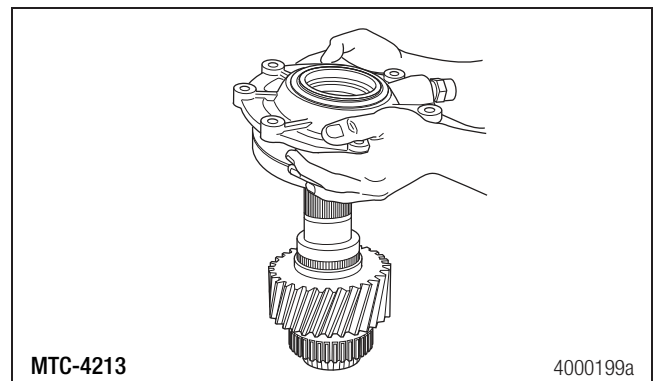

Figure 5.29
4. Lift the front input bearing cage and internal oil pump assembly, if equipped, off the input shaft. Figure 5.29.